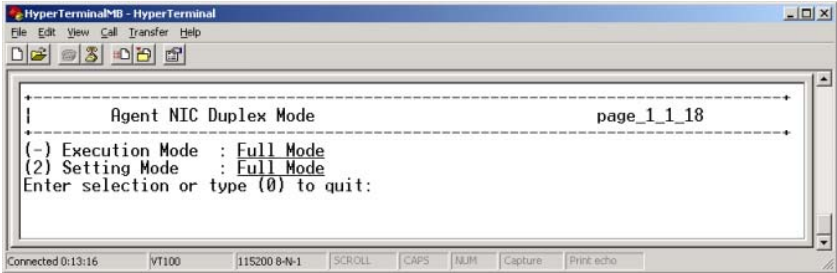

Figure 20: Agent NIC Duplex Mode menu
- i** The management blade LAN controller only runs at 10 Mbit/sec. Duplex mode must be defined manually via the *Agent NIC Duplex Mode* (see figure 20 below).